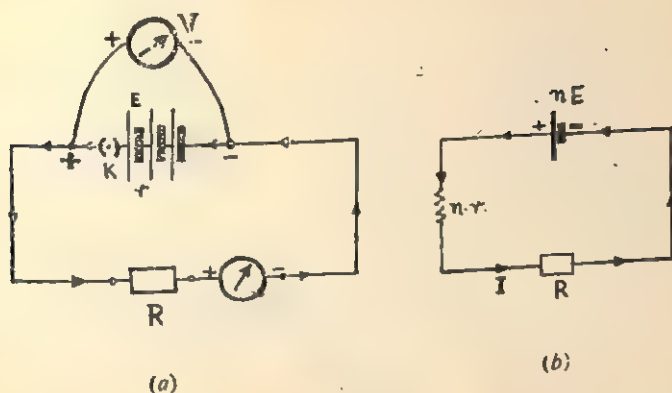

Fig. 12.22.
**(I) Series Combination of Cells.** Two or more cells are said to be connected in series when the positive terminal of one cell is connected to the negative terminal of the next and so on as shown in Fig. 12.21 (a). Let there be  $n$  identical cells each of e.m.f.  $E$  and internal resistance  $r$ , all connected in series to supply current in a resistance  $R$  as shown in Fig. 12.22 (a). The total e.m.f. of the series combination is  $nE$  and the total internal resistance of all the cells is  $nr$ . This resistance  $nr$  acts in the circuit in series with the external resistance  $R$  as shown in Fig. 12.22 (b). Thus the total resistance of the circuit is  $(nr + R)$ . The current  $I$  in the circuit is given by Ohm's Law as—
(iv) Connect all the three cells in series as shown in Fig. 12.22 (a).